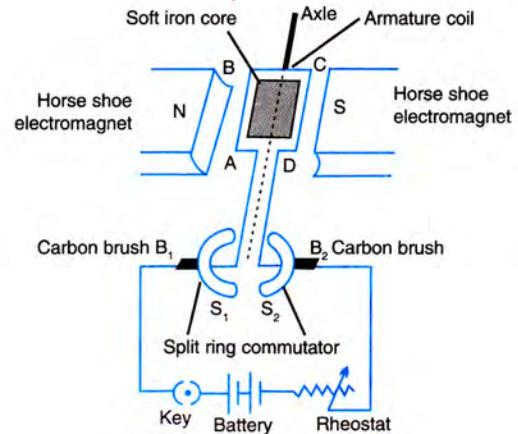

Fig. 10.24 A d.c. motor
**Construction and its main parts :** The basic construction of an electric motor is shown in Fig. 10.24. The main parts of an electric motor are :
- (1) the *armature coil ABCD* mounted on an axle,
- (2) the *split parts S1 and S2 of a ring* (i.e., a copper slip ring being divided in two parts S1 and S2) which is known as *split ring commutator*,
- (3) a pair of carbon (or copper) *brushes B1 and B2*,